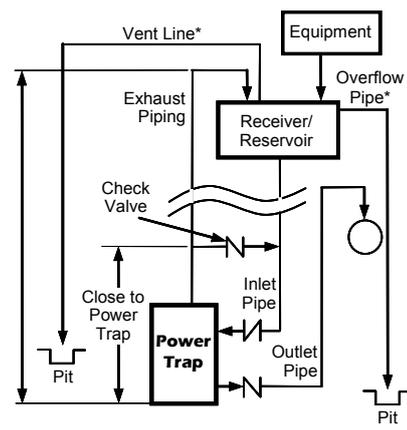

Figure 2: Open & Closed Systems
- (b) **For Open and Closed System:** Add piping connecting the exhaust pipe to the pumped medium inlet pipe between the reservoir and the strainer, being sure to install a check valve on the piping to prevent backflow of condensate from the pumped medium inlet pipe to the exhaust pipe. (Figure 2)